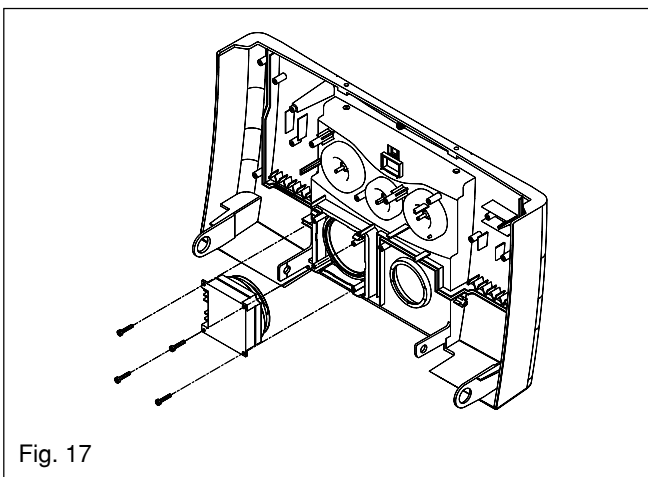

Fig. 17
- remove the push-out blanking disc from the clock aperture plate (fig. 17)
- secure the clock to the aperture plate using the screws provided with the clock (fig. 17)